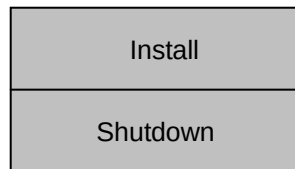

Fig. 2.2-2 System Software Registration Button
- (9) Upon completion of the system bootup, the button shown in Fig. 2.2-2 is displayed.